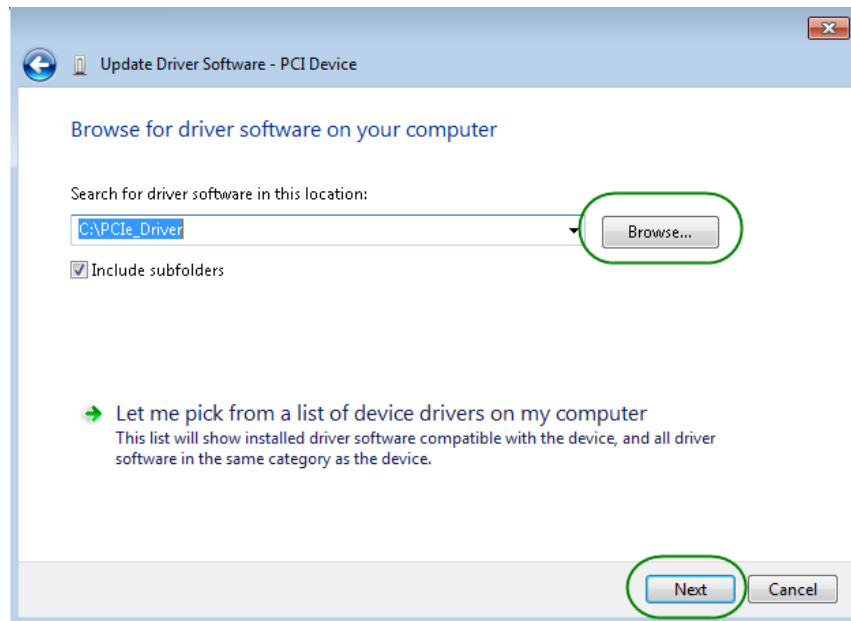

Figure 7-5 Browse for the driver software on your computer
7. In the **Browse for driver software on your computer** dialog, click the **Browse** button to specify the folder where `altera_pcie_din_driver.inf` is located, as shown in **Figure 7-5**. Click the **Next** button.